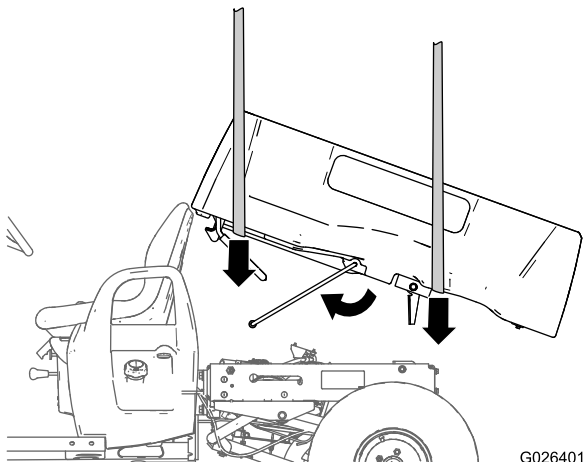
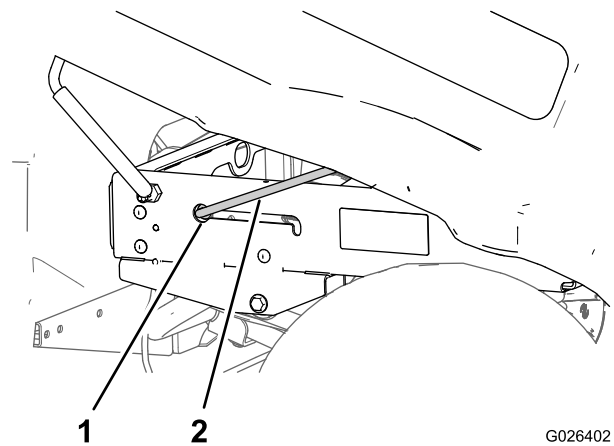

Figure 17
Figure 18
2. Using lifting equipment at the front and back of the cargo box, raise the cargo box and align it over the frame of the machine with the pivot-bracket assembly rearward (Figure 17)
4. Adjust the height and position of the lifting equipment so that the short leg of the prop rod is aligned with the key hole at the end of the prop-rod slot in the left-frame channel or prop rod bracket (Figure 17).
5. Swing the prop rod forward and insert the short leg of the rod through the key hole (Figure 17 and Figure 18).
6. Move the cargo box and prop rod rearward until the pivot-bracket assembly is aligned over the rear-frame channel (Figure 18).